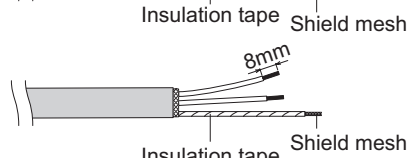

Fig. 1-10
- (2) Unbraid the braided shield carefully and twist the unbraided shield wires tightly together. Insulate the shield wires by covering them with an insulation tube or wrapping insulation tape around them. (Fig. 1-10)